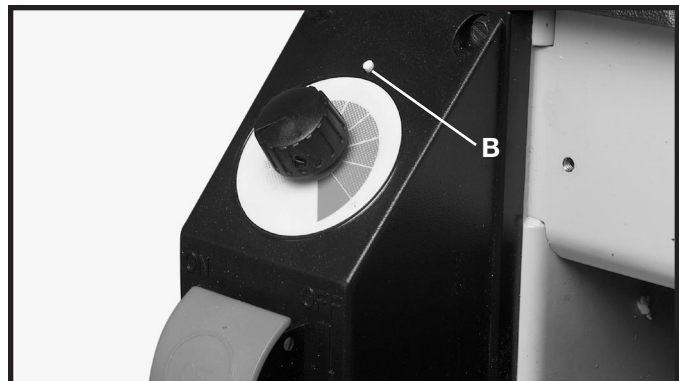

Fig. 45
The feed belt motor is equipped with a re-settable overload relay. If the feed belt is tensioned too tightly, the feed belt overload may trip. To correct, loosen the tension on both sides of the feed belt, 1/4 turn at a time on the tensioning set screw on each side of the feed belt. Push the reset button (B) Fig. 45.